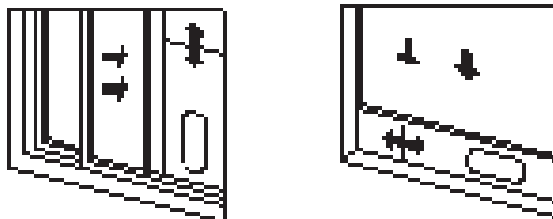

Fig. 5
- ▶ open the window halfway and mount the sealing plate from the kit vertically or horizontally (22).
- ▶ move the elements of the sealing plate, adjust the distance between the plates so that they tightly fill the space created after sliding the window (Fig. 5), then lock with a screw, or cut the plate to an appropriate length without a gap